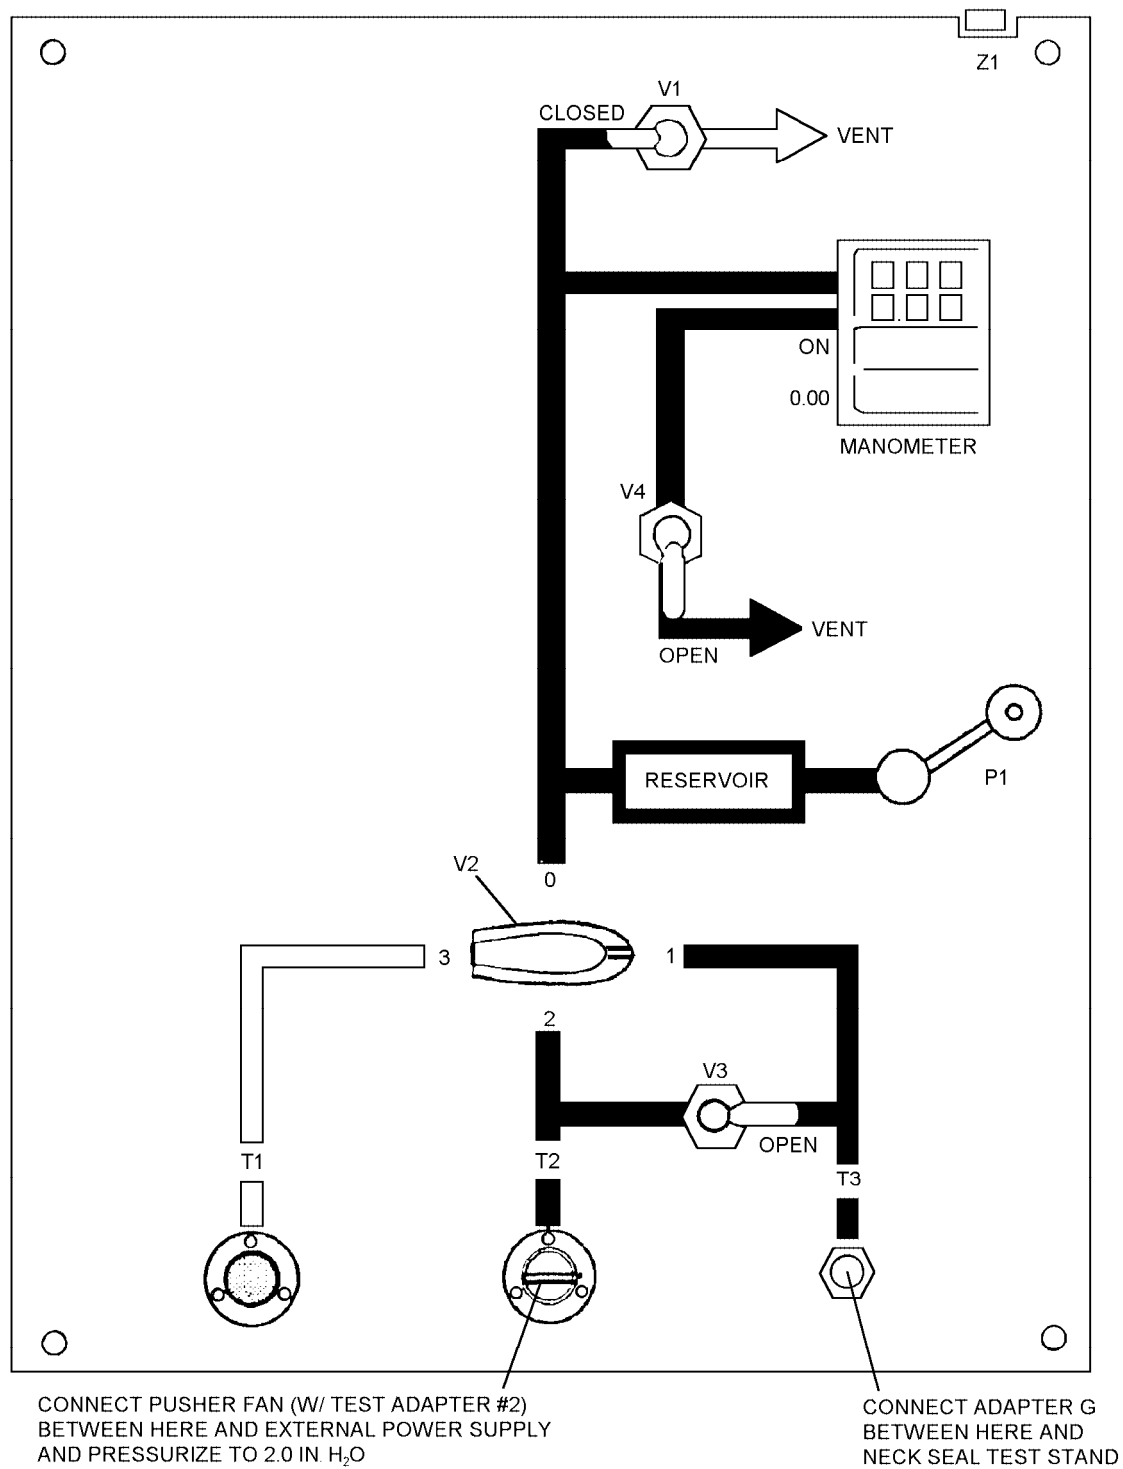

Figure 4-100. Mask Assembly - Overall Leakage Test
3. Ensure adapter G is correctly fitted between T3 and neck seal test stand port (figure 4-100).